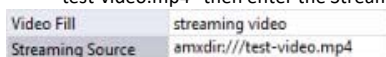

Fig. 168 TPDesign5 - Streaming Source (State) property
10. For the *Streaming Source* property, enter the filename of the video file with **amxdir:///** as the prefix. For example, if the video filename is "test-video.mp4" then enter the *Streaming Source* as "amxdir:///test-video.mp4" (FIG. 168):